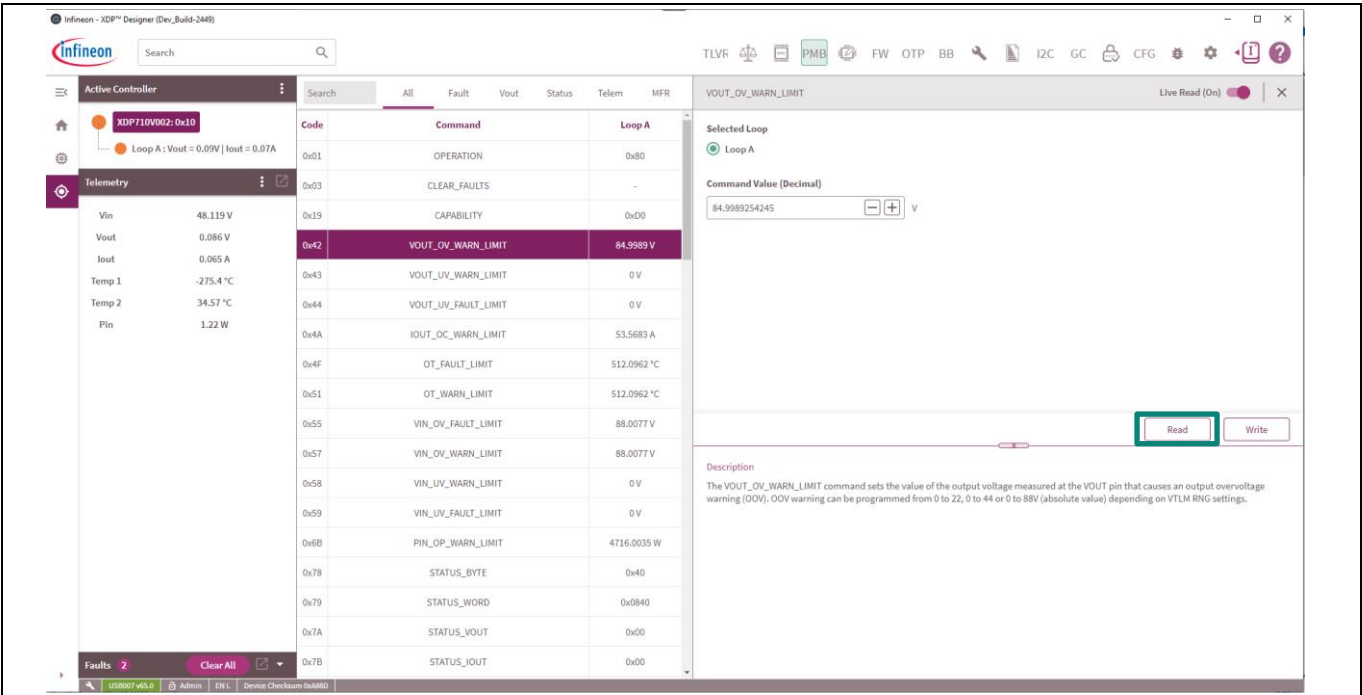

Figure 25 Reading VOUT\_OV\_WARN\_LIMIT
- Most of the registers are updated automatically, but to read the latest values click **Read** to read the corresponding register values, as shown in Figure 25.